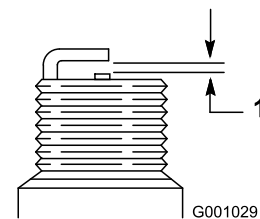

Figure 45
7. Set the gap between the electrodes on a new spark plug at 0.030 inch (0.76 mm) (Figure 45).